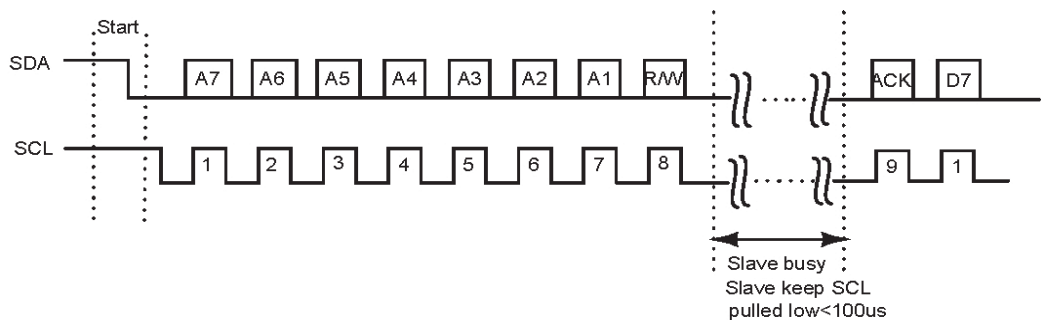

Figure 9.3.2: I²C clock stretching example
5. I2C slave can hold off the master in the middle of a transaction using what's called clock stretching (the slave keeps SCL pulled low until it's ready to continue). Refer to figure 9.3.2 for an example.